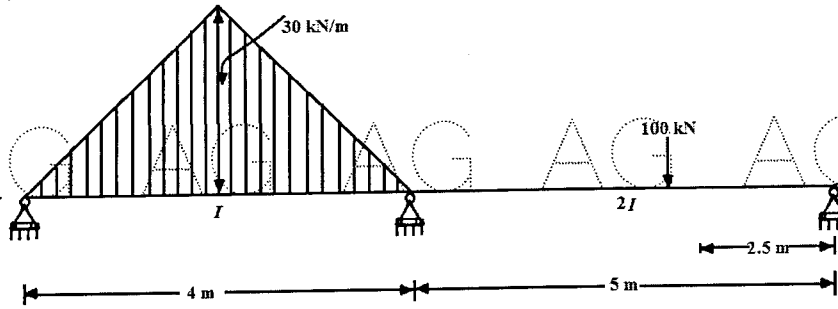

Figure 6
8. Analyse the continuous beam shown in figure 6 by flexibility method. [10]